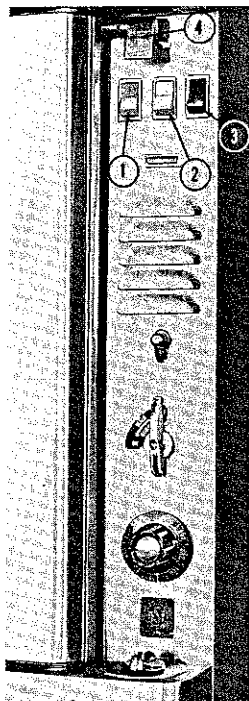

FIG. 11
1. The blower is directly connected to the motor which is operated by the On-Off switch on the control panel marked BLOWER (Figure 11, No. 1).
3. The Man-Auto switch on the control panel marked COOL DOWN (Figure 11, No. 3), should normally be in the Auto position to allow proper automatic operation of the blower. However with the doors open the blower may be operated by placing COOL DOWN switch to Man position. This feature allows rapid lowering of temperature in the oven.